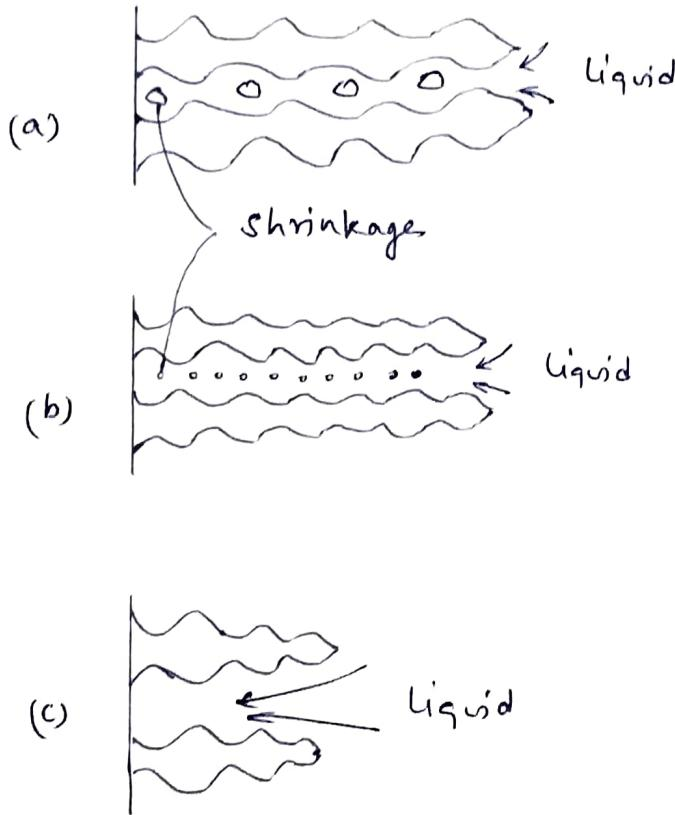

Fig 17: (a) Shrinkage can occur between the dendrite arms. small secondary dendrite arm spacings result in smaller, more evenly distributed shrinkage porosity.
Interdendritic shrinkage is found when extensive dendritic growth (13) occurs (fig 17).